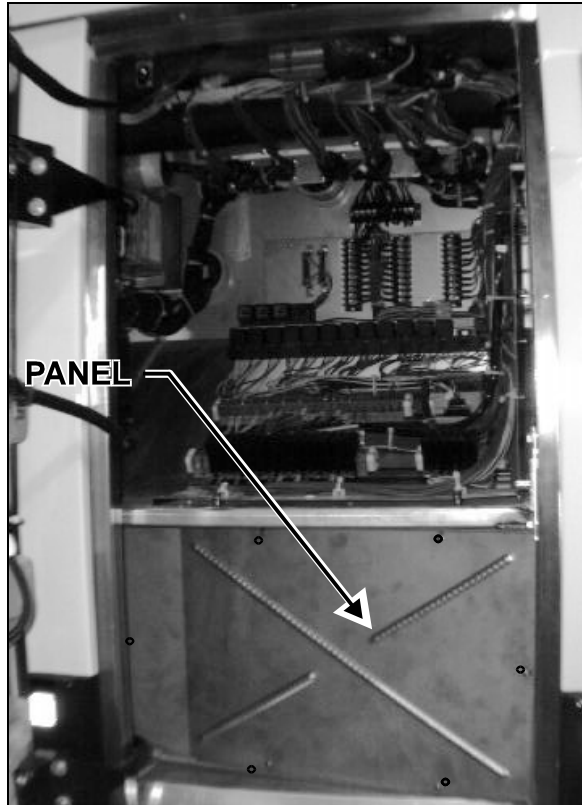

FIGURE 1: REAR ELECTRIC COMPARTMENT 22058
2. To get access behind sealing frame and place washers on rivets, remove the panel covering preheating system. This panel is located in the rear electric compartment (see figure 1).